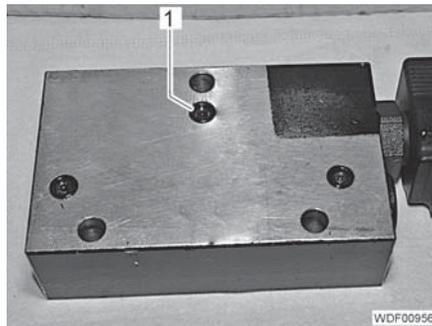

Fig. 185 Sealing surface of the valve block
- Clean the surface of the valve block (Fig. 185).
- Replace the 3 O-rings (Fig. 185,1).